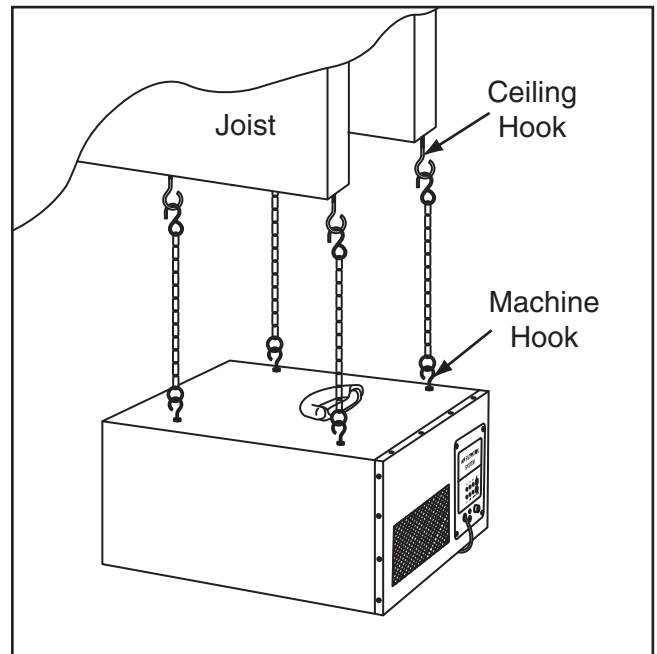

Figure 11. Air filter mounted to the joists.
2. Drill a $\frac{3}{32}$ " pilot hole into the center of the joists at the mounting locations, then fully thread the ceiling hooks into the joists (see **Figure 11**).